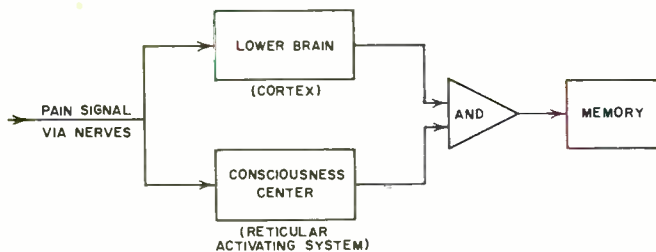

Fig. 1. Electronic equivalent of the pain-sensing system.
Just how they are generated or how the brain receives them is not clear, but as far as pain perception is concerned, two separate functions appear to be performed in the brain. Fig. 1 shows the electronic interpretation of this phenomenon. Pain signals are carried by the nerves to the cortex (lower part of the brain) and, at the same time, they go to the "consciousness center." This region, referred to as the "reticular activating system," seems to be located in the center of the brain. The "outputs" of these two pain receivers are combined in some kind of biological "and" circuit, and only when both outputs are present is the pain sensation passed on to the memory.
There are at least four ways in which a familiar cone-type loudspeaker can be reduced in depth. These are illustrated by the cross-sections shown in Fig. 1.
Fig. 1. Various ways of making cone-type speakers shallower. (A) Large-diameter voice coil. (B) Shallow magnet structure. (C) Inverted magnet structure. (D) Flat piston instead of cone.